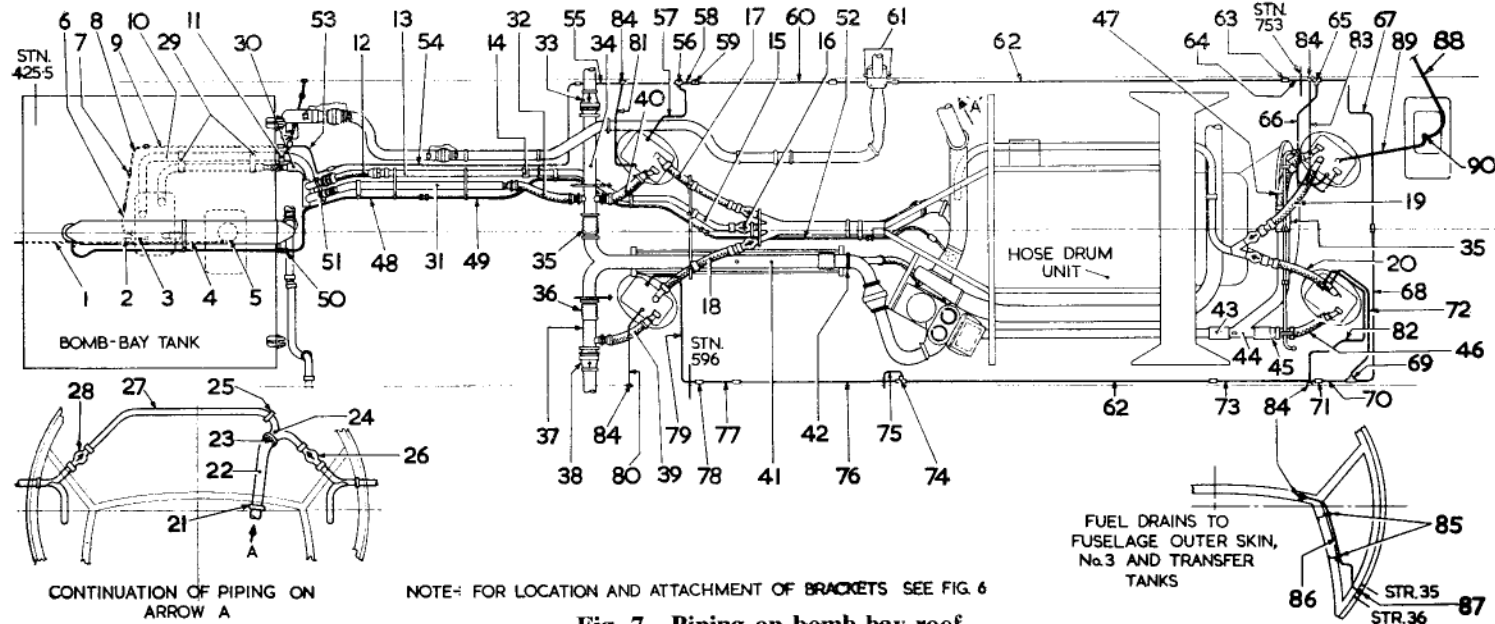

Fig. 7. Piping on bomb-bay roof
KEY TO FIG. 7. Piping on bomb-bay roof
**KEY TO FIG. 7. Piping on bomb-bay roof—continued**
## KEY TO FIG. 7. Piping on bomb-bay roof—continued